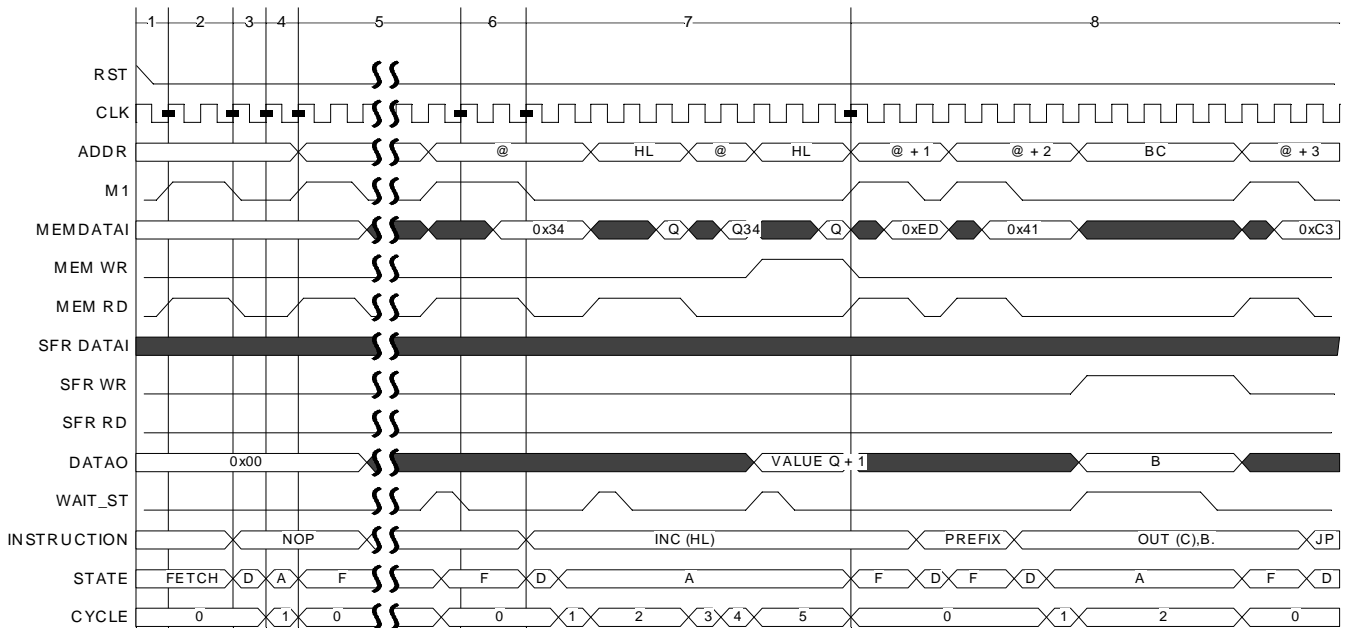

Figure 17. Example instruction cycle, including read and write
The timing diagram of Figure 17 illustrates the signal timing involved in the execution (in sequence) of the following three instructions – NOP, INC (HL) and OUT (C), B.